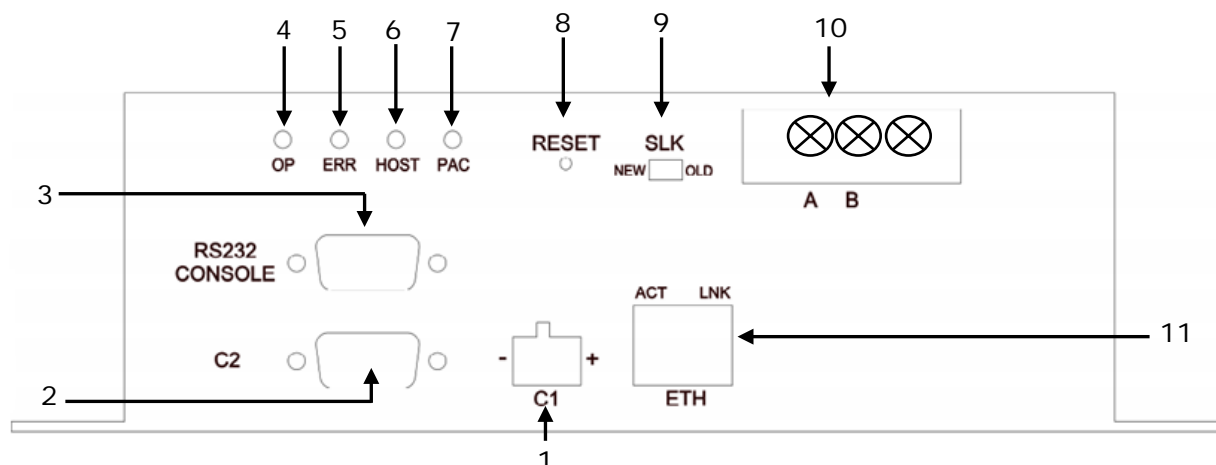

Figure 3.1 IntesisBox® KNX device front view
- Ethernet: Using the ETH port (**Figure 3.1**) of IntesisBox®. How to check connectivity is explained in section 6.3.
- Serial cable: Connect the IntesisBox® device to the PC serial port using the serial cable provided. One end should be connected to the Console EIA232 port of the IntesisBox® device (**Figure 3.1**) and the other end to the PC serial port.